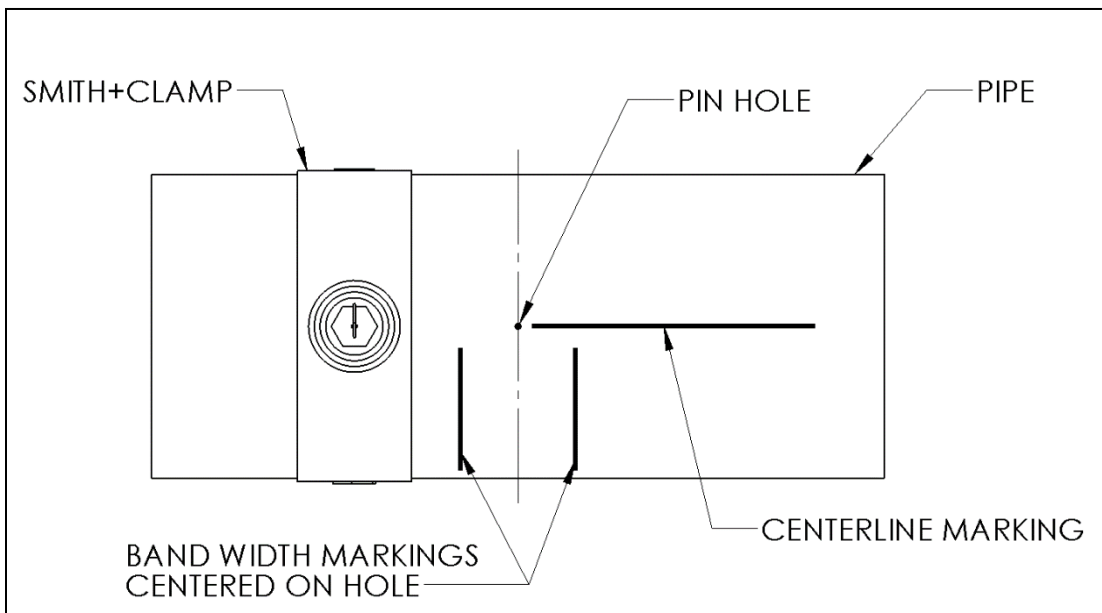

Figure 3
- To assist with the alignment of the PLIDCO Smith+Clamp, it can be helpful to mark the location of the hole relative to the center of the seal cone by using a grease pen as shown in Figure 3. Mark a horizontal line longitudinally down the center of the pipe, and 2 vertical lines centered around the hole that are the same width apart as the Smith+Clamp band.